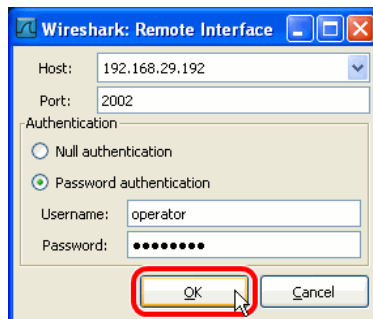

Figure 246: Wireshark Remote Interface Dialog.
4. Enter the correct settings for **Host** and **Port** (default 2002) and, if authentication is enabled, enter **Username** and **Password** in the corresponding fields as shown in Figure 246.